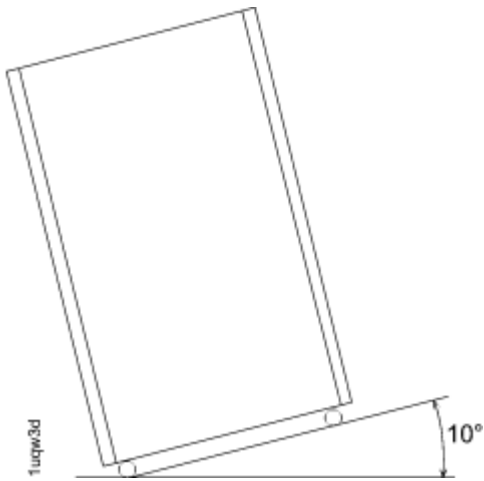

Figure 6. Maximum tilt for a packed frame is 10°
3. To compensate for the weight of the storage system shipment, ensure that the loading ramp at your site does not exceed an angle of 10°. (See Figure 6 on page 82.)